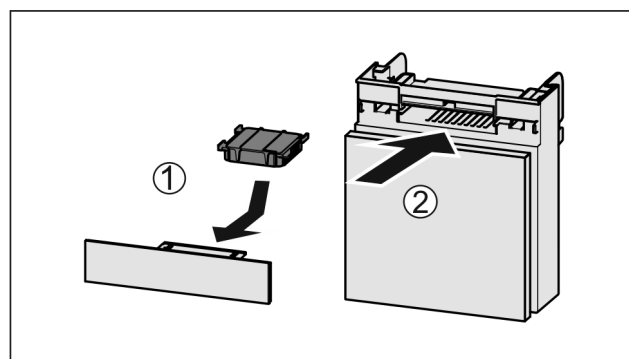

Fig. 184
- ▶ Insert the carbon filter as shown in the diagram Fig. 184 (1).
- ▶ Push the compartment in Fig. 184 (2).